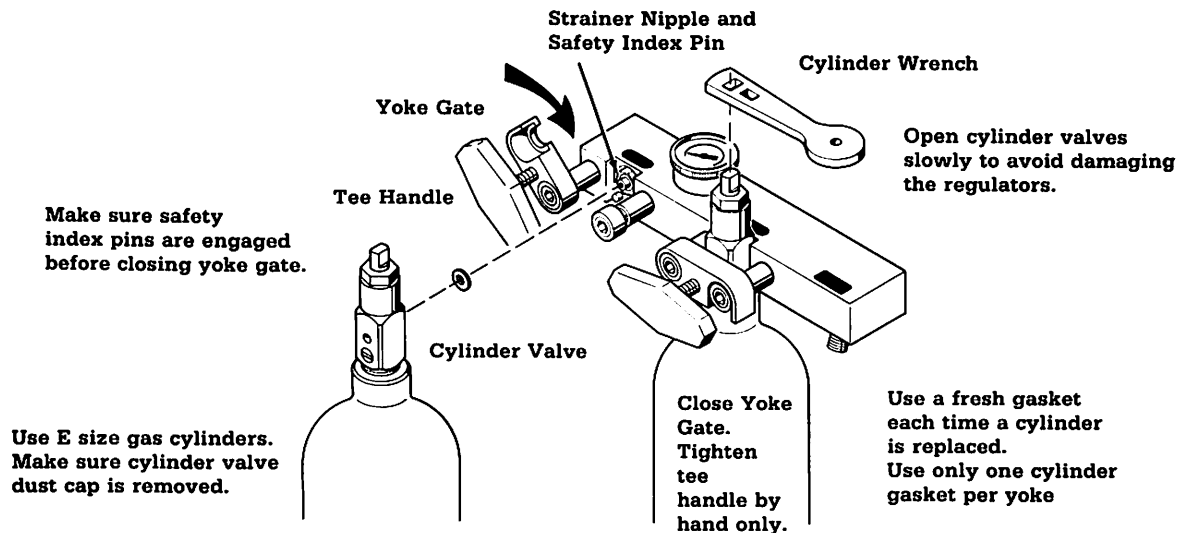

Figure 5-20. Gas Manifold Maintenance.
A. General (Figures 5-20 and 5-21)